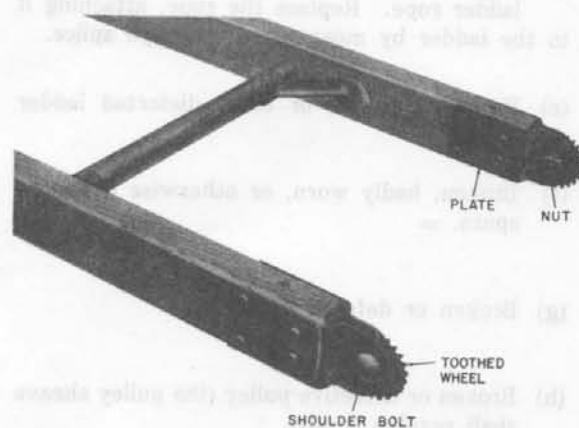

Fig. 38—Wheel Spurs
10.36 Do not change the position of a wheel spur on only one side of ladder; always change both, even though one is not badly worn. Wheel spurs are illustrated in Fig. 38.